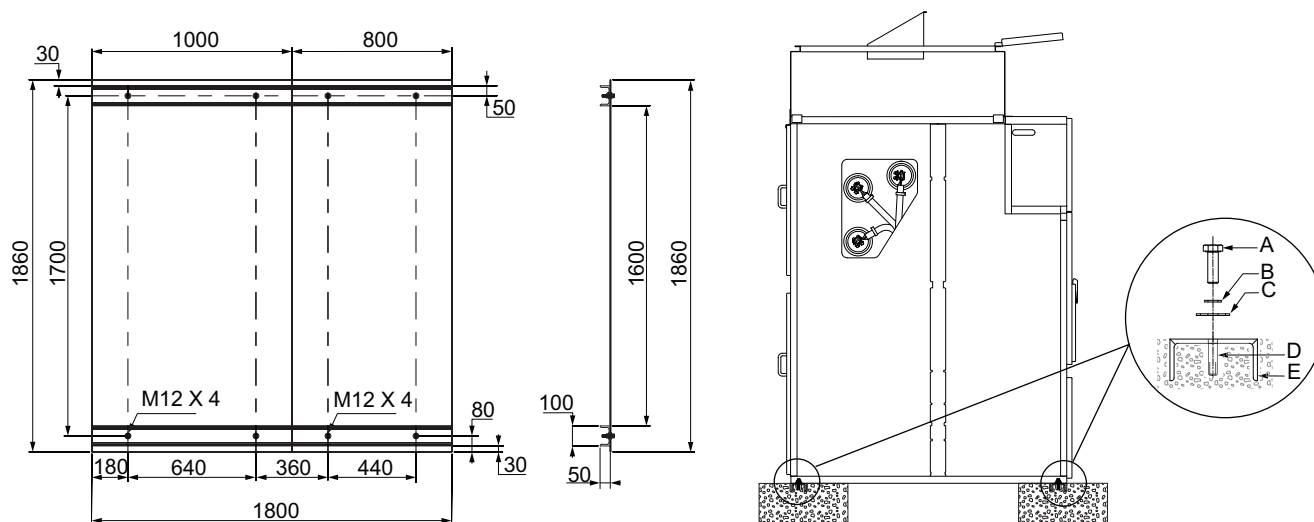

Figure 20
1. Drill holes into the C-channel frames at the intended cubicle fastening points, refer to Figure 20.